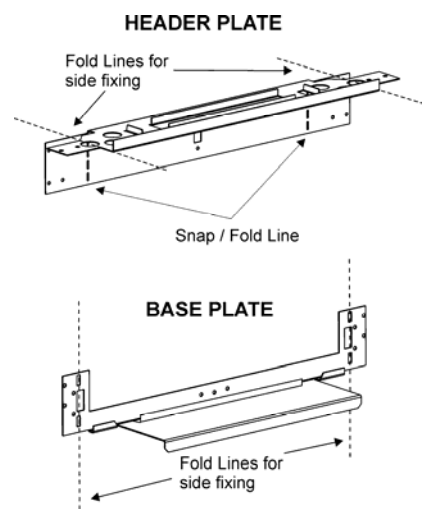

Fig. 3
7. Bend ends of the base plate to fit stud opening - see Fig. 3. Position plate and nail in level with datum line and with folded bottom edge flush with the veneer wall surface.